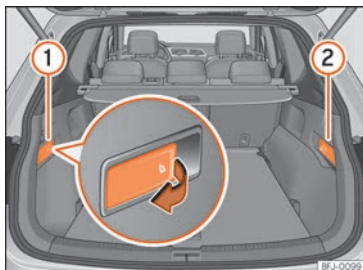

Fig. 112 In the luggage compartment: levers for release, from the luggage compartment, of the left part ① and right part ② of the rear seat backrest.
- Pull the unlocking lever » Fig. 112 of the part of the backrest to fold down.